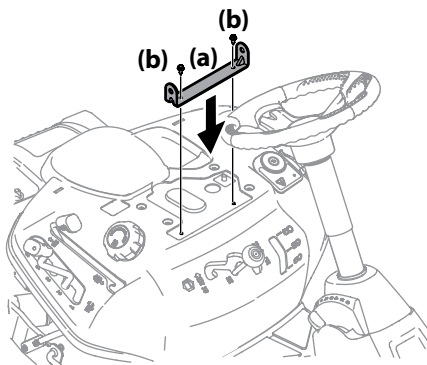

Figure 2-7
- Align the seat bracket (a) in place over the holes from where the self-tapping bolts (b) were removed, as shown in Figure 2-7.
- Using a $\frac{1}{4}$ " drive ratchet with a $\frac{3}{8}$ " socket, secure the seat bracket (a) with the self-tapping bolts (b) removed in step 2. See Figure 2-7.